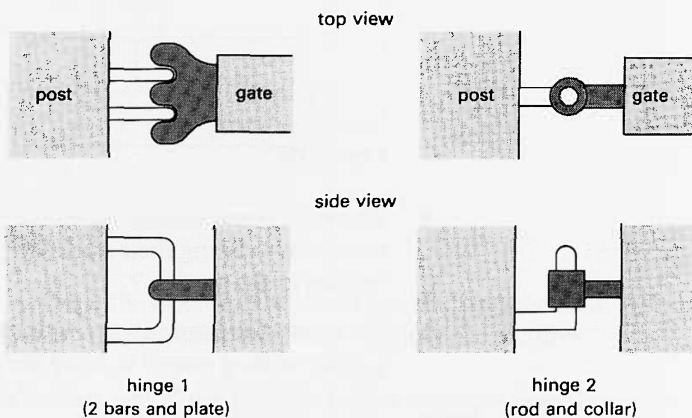

Figure A108
- Sketches of the hinges are shown in figure A108. Which one is the top and which the bottom one? Explain.